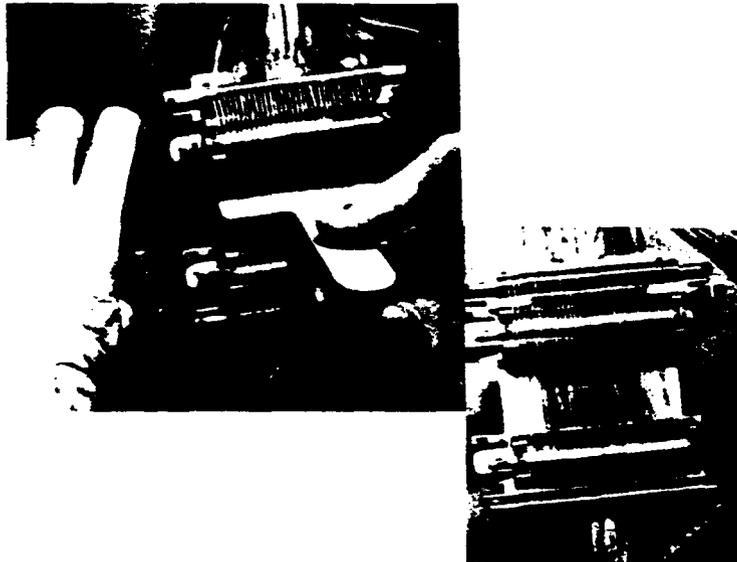

FIG. 25 CREATING SLACK BETWEEN
4.311 Slack is needed for folding the wires over the two mandrels. This is obtained by compressing the tool (moving the upper comb toward the lower comb and latching it in place) while simultaneously gently pressing the wires in the center downward with the verification comb (this procedure can be accomplished sequentially with the verification check in Par. 4.310). Note that the latch engages with an audible snap. See Fig. 25.